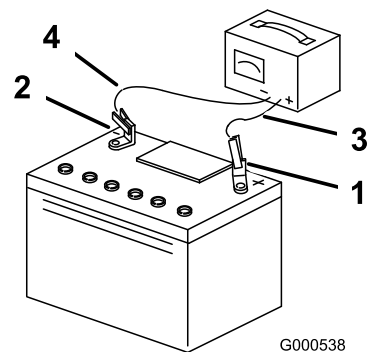

Figure 54
5. When the battery is fully charged, unplug the charger from the electrical outlet, and disconnect the charger leads from the battery posts (Figure 54).